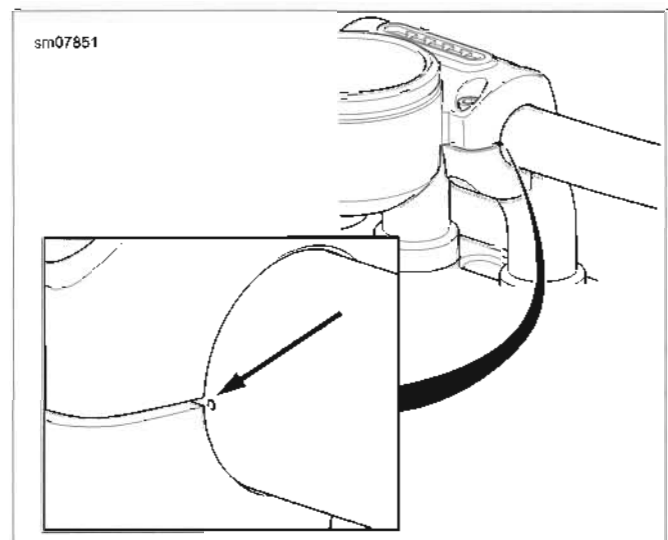

Figure 7-101. Alignment Marks
2. Loosely install upper handlebar clamp (1) with fasteners (2).
3. See Figure 7-101. Align marks with seam of clamps.